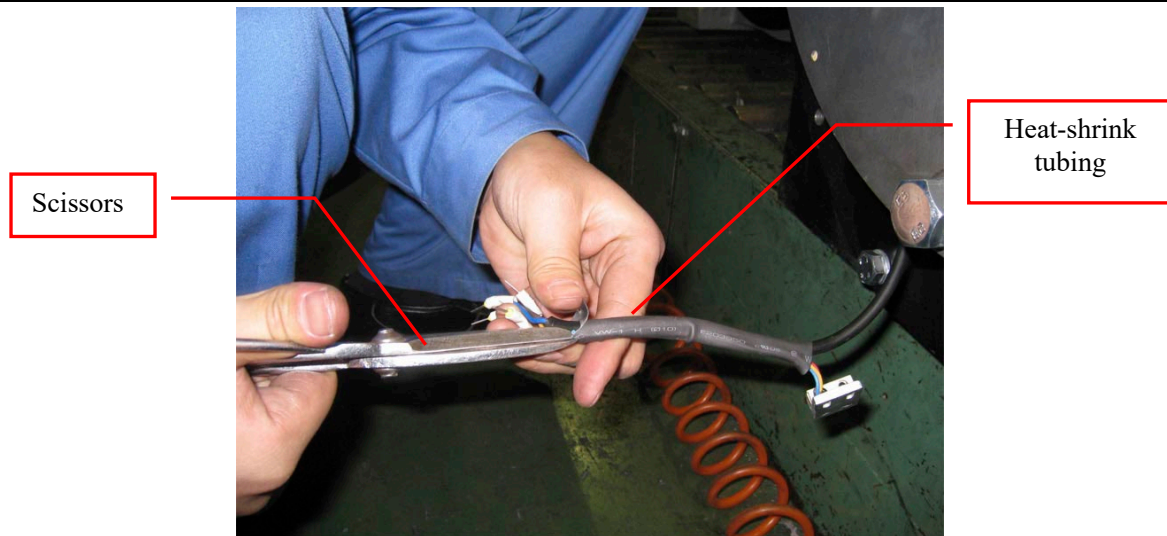

Figure 24 Remove heat shrink tubing
4. Cut off the heat shrink tubing which protects the brake cable using scissors. See Figure 24.